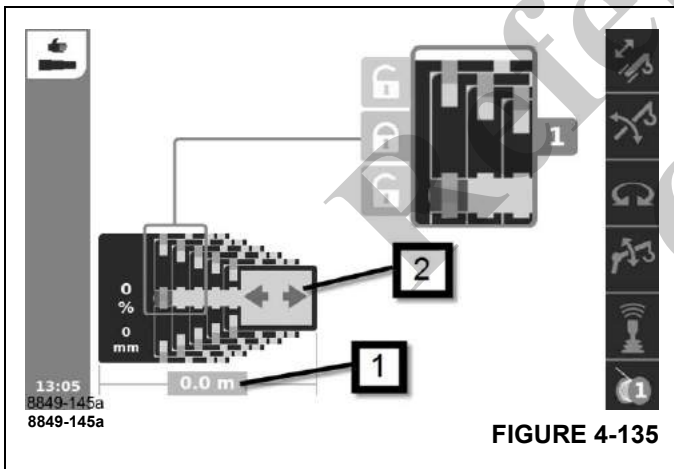

FIGURE 4-135
If the requirements for telescoping are met, the symbol (2), (Figure 4-135) is shown.